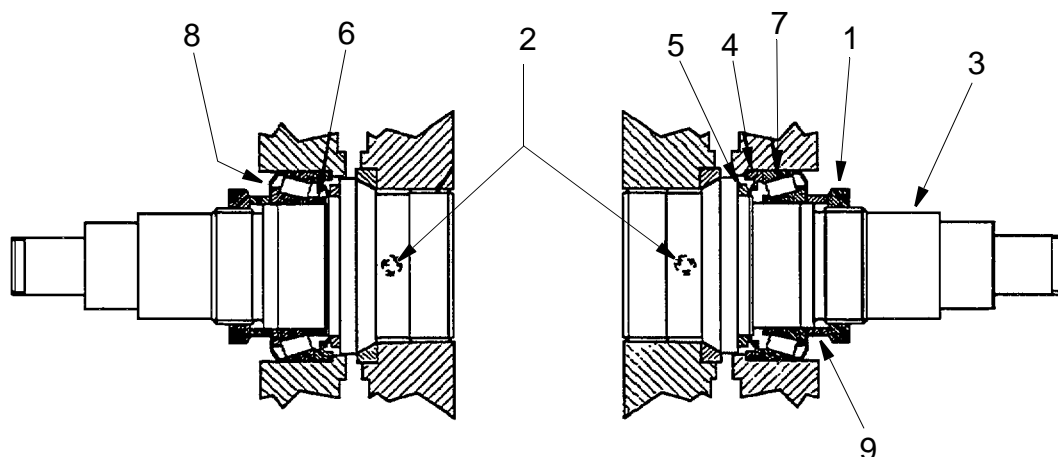

Figure 11 Joint axes 2 and 3
5. Remove the KM nut (1) on each shaft. See Figure 11.
6. Remove the stop screws (2) in the lower arm. See Figure 11.
7. Remove the protective plates <2:3/10> on the inner side of the shaft, unscrew the shafts (3). The bearing is pressed out with the shaft. See Figure 11.
NOTE! Mount the left side first, complete, robot seen from behind! See Figure 11.